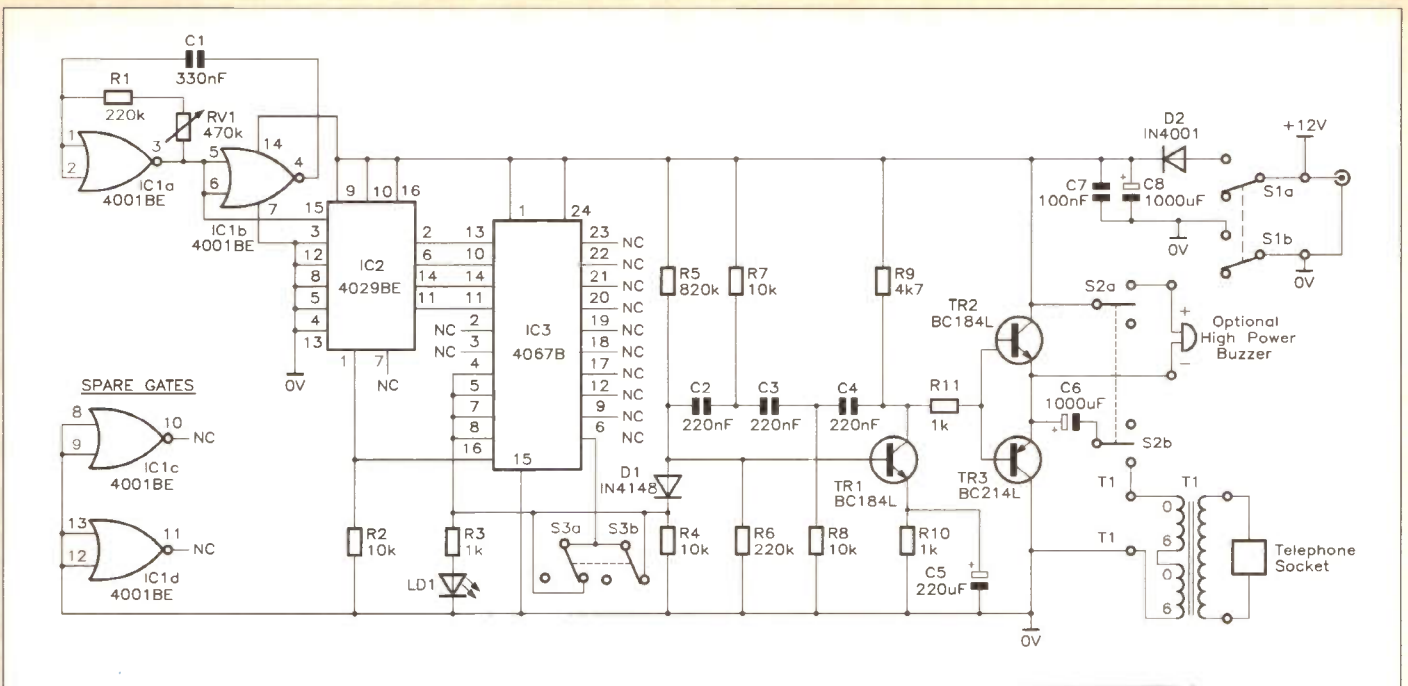

Figure 4. AutoRing circuit diagram.
by an astable multivibrator based around two of the NOR gates in IC1, a CMOS 4001B device (the other two gates are not used); refer to the circuit diagram of Figure 4. The clock period, typically 0.2 seconds, is determined by C1 and RV1/R1. Note that RV1 provides quite a large range of adjustment. The output of the astable is fed into the clock input of a 4029B counter, IC2, which is configured to provide a 4-bit binary count ranging from 0000 (0) to 1111 (15). The four outputs are present at pins 6 (Most Significant Bit - MSB), 11, 14 and 2 (Least Significant Bit - LSB). Each time a clock pulse is received at its input, the binary count is advanced by 1 - see Table 1. The counter outputs are used to determine the switch position; IC3 requires 4 control bits (from the counter) at pins 10 (MSB), 11, 14 and 13 (LSB). The decimal value of the 4-bit binary input (see Table 1) corresponds to the switch position selected (0001, position 1; 0010, posi-